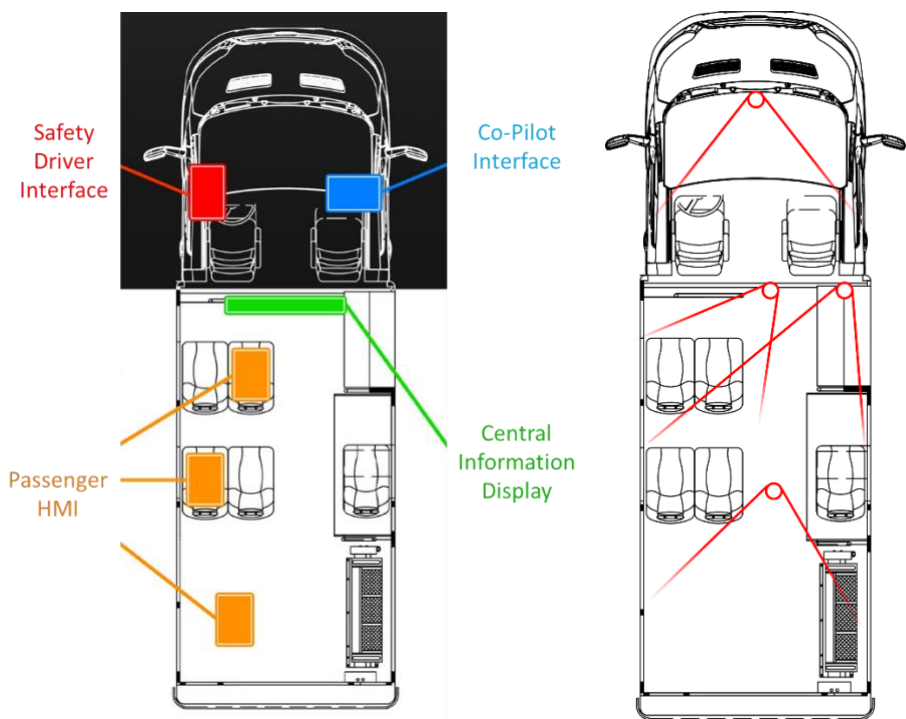

Figure 13. Location of all displays and interfaces (left); location of all in-vehicle cameras (right)
Step 2: Perform an in-cabin systems check. Ensure that all displays and interfaces power up and display the appropriate information. This includes the safety driver display, the co-pilot display, as well as the central information display and all passenger HMI (see Figure 13, left).
Step 3: Check all in-vehicle cameras to ensure that they have not been moved or bumped. The passenger video views/angles can be checked by looking at the video recorder—it will be showing live views of the four connected cameras (see Figure 13, right). Going to record (from standby) can also be verified by indicators on the recorder.